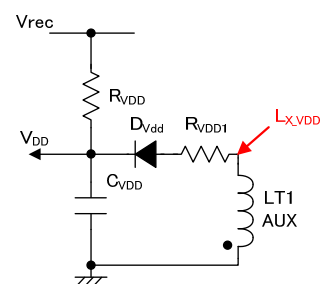

Fig.27 VDD power supply circuit using a transformer
A VDD power supply circuit using a transformer is shown in Fig. 27.
When R_{VDD} is large and the current through R_{VDD} is smaller than the current consumed in the IC, the V_{DD} pin voltage does not rise higher than the UVLO release voltage and startup is not possible. For this reason, select a resistance value for R_{VDD} that satisfies Equation (9). (Fig. 27)